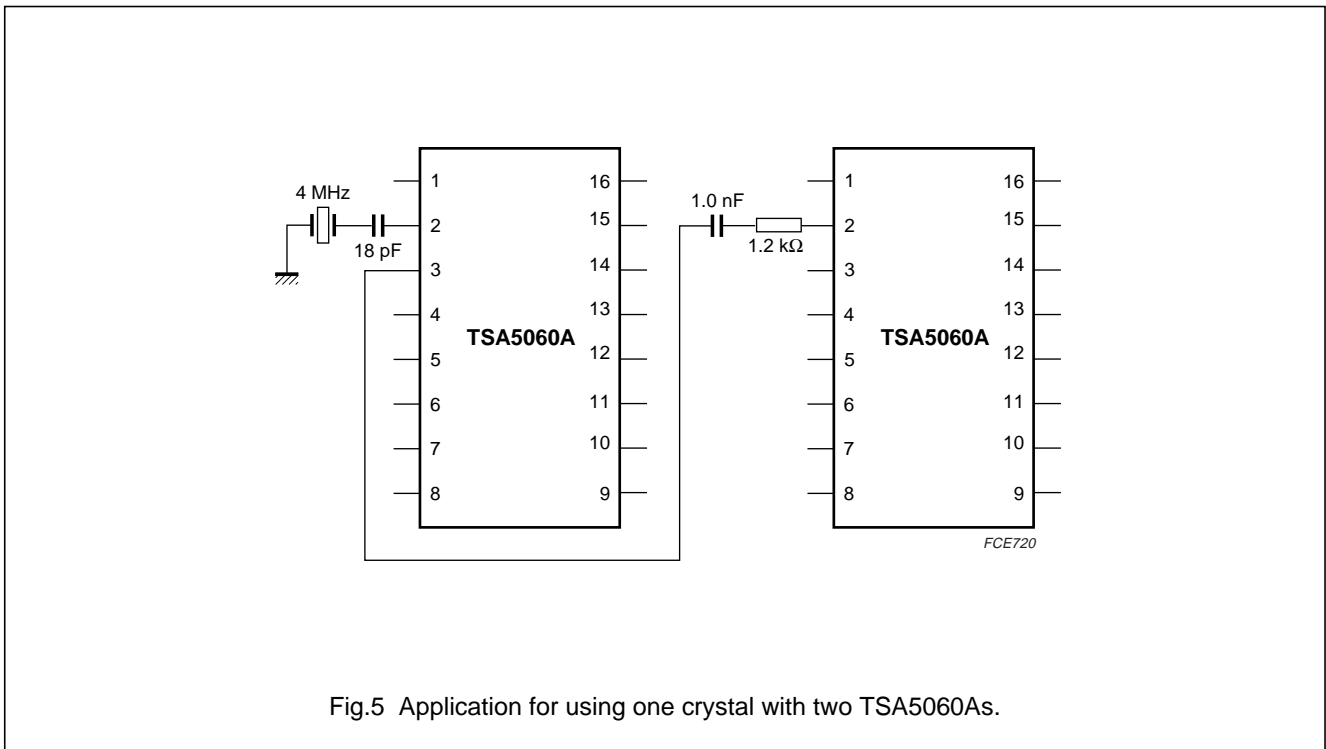

Fig.5 Application for using one crystal with two TSA5060As.
- To drive pin XTAL from the pin XT/COMP of another TSA5060A, couple the signal through a capacitor of 1 nF (to remove the DC level) in series with an 1.2 kΩ resistor; see Fig.5.